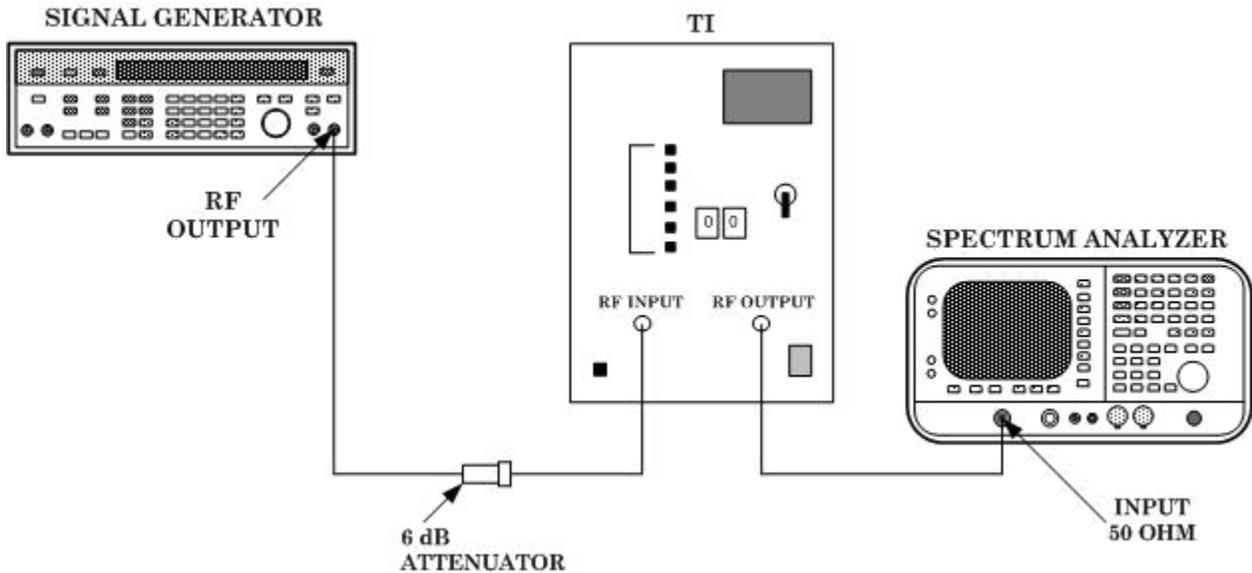

Figure 2. Harmonic rejection.
(1) Connect equipment as shown in figure 2.
(2) Set TI **AUTO/MANUAL/SELECT** switch to the center position, **MANUAL** (manual operation), and set the thumb wheels to select range **01**. Press the **AUTO/MANUAL/SELECT** switch down momentarily to activate the TI range.
(3) Set signal generator to produce a 135 kHz CW output at 0 dBm.
(4) Set spectrum analyzer center frequency to match signal generator output frequency and span to 250 kHz.
- (5) Press the spectrum analyzer **Peak Search, Marker, Delta** keys.
- (6) Set signal generator output frequency and spectrum analyzer center frequency for that of the 2^d harmonic as listed in table 4 and press **Peak Search** key. Spectrum analyzer will indicate as listed in table 4.
- (7) Repeat technique of (6) above for the 3^d and 4th harmonics.